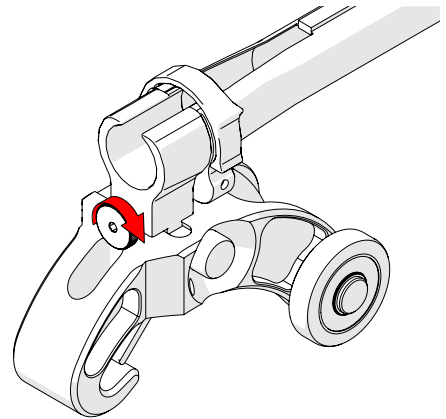

Fig. 71 - Tighten knob
2. Once centred on the red dovetail link, tighten the cable management's dovetail mount knob (Fig. 71).